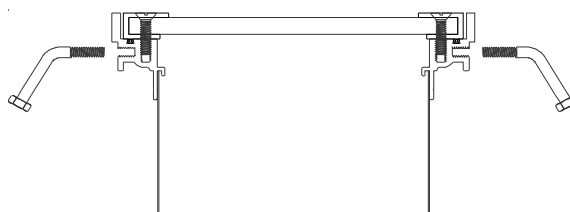

Figure 2
**STEP 3.** Attach the anchors (part no. HB14212) to the trench cover or access cover frame, spacing the anchors at 20" o.c. (see Figure 2).